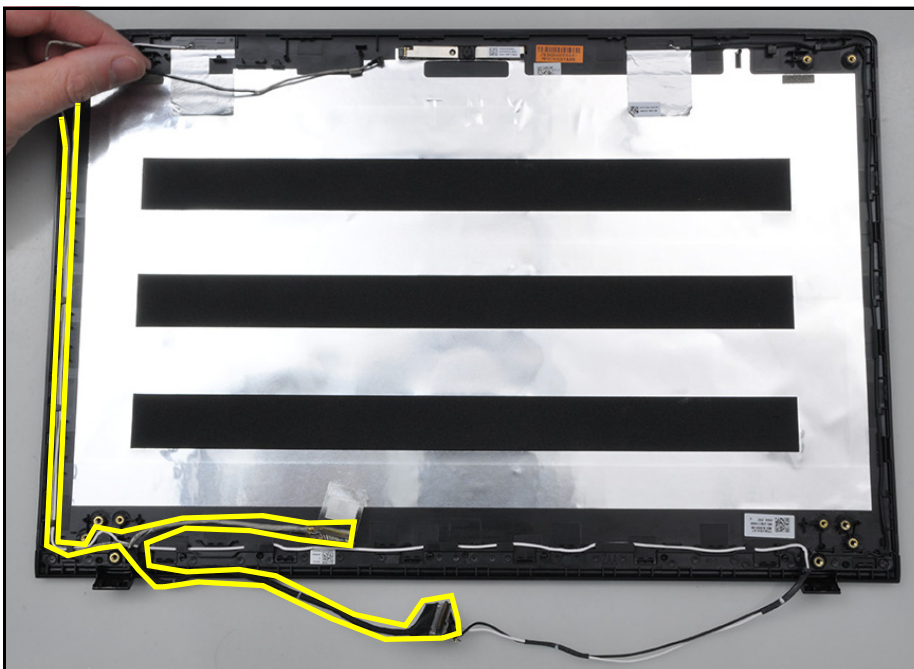

Figure 3-66. eDP and Camera Cable Removal
2. Remove the eDP and camera cable from the cable guides and remove it from the LCD cover (Figure 3-66).